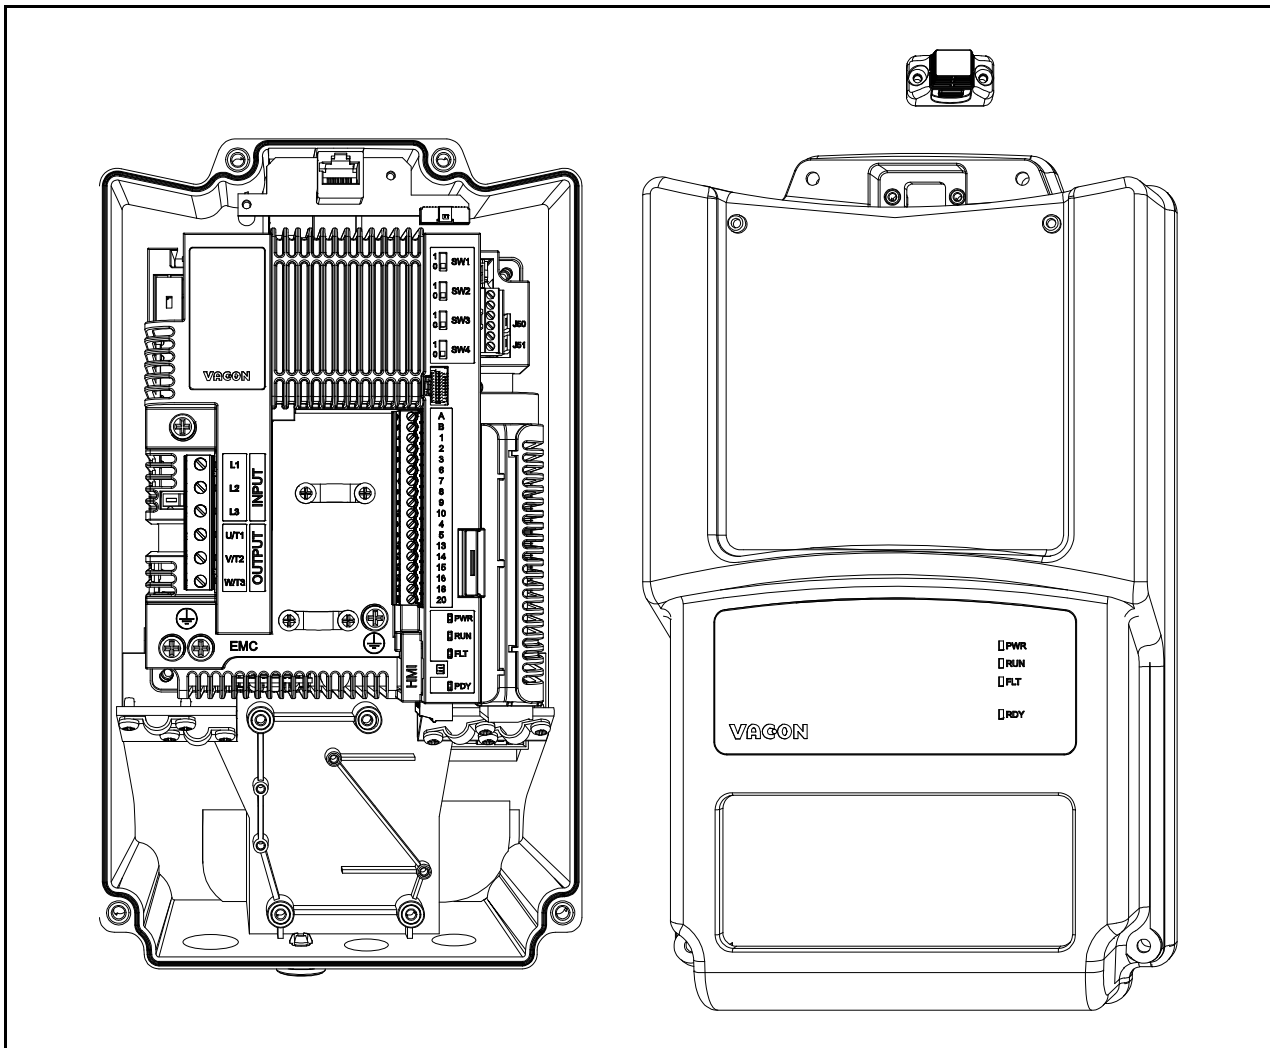

Figure 2. Cover open.
- Remove the cover from the drive. See the Figure 2.